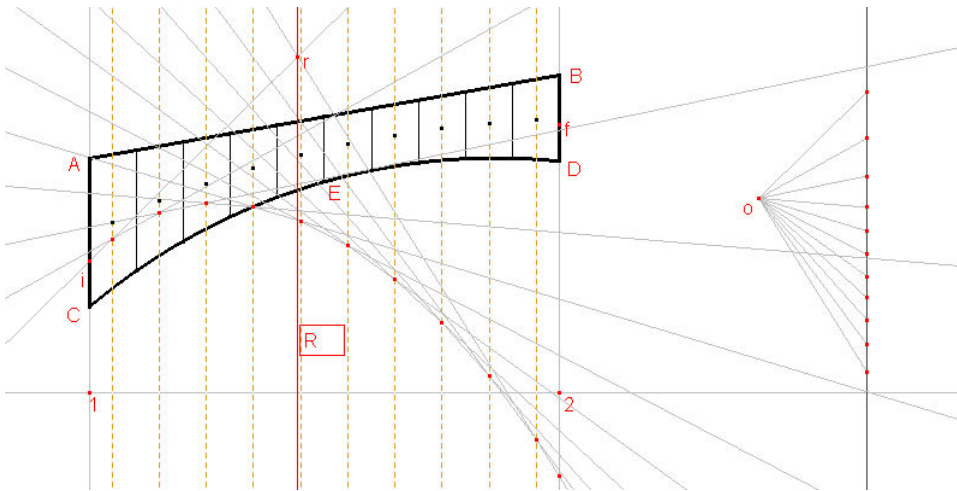

fig.7: Helper funicular construction to find the resultant of the flyer R.
b.2. The funicular construction we have now is only a "Helper construction" to find the line of action R of the resultant vector of the flyer. Find the intersection point r of the first and the last ray and the vertical through that point is R (fig.7).